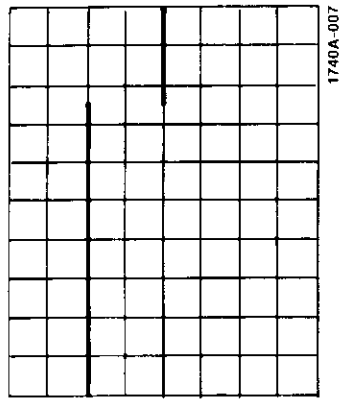

Figure 6b. Delayed Sweep Display
4. Press DLYTD **48** and note the intensified portion of the trace is now displayed across the entire CRT (see figure 6b).